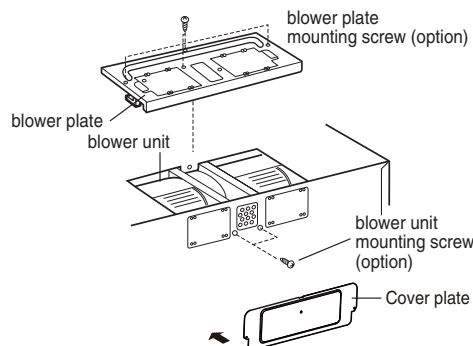

Figure 22
7. Reattach the cover plate on the back. Reattach blower plate to microwave oven. Attach with the one blower unit mounting screw and then the one or two blower plate mounting screw(s). See Figure 22.